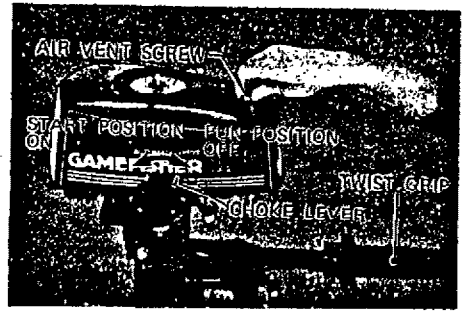

Figure 7
9. STARTING PROCEDURE (See Fig. 7 & 7A)